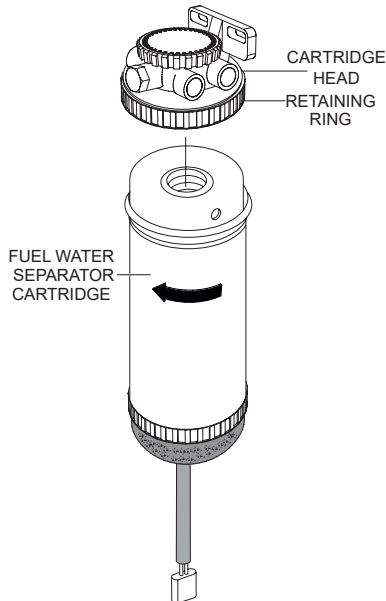

Figure 66. Fuel Water Separator
1. Use a filter wrench to remove the fuel water separator cartridge (Figure 66) from the cartridge head.